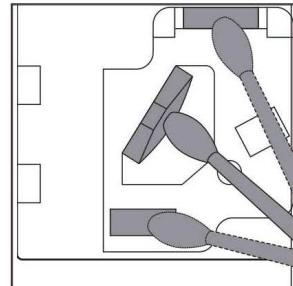

Fig. 10
- clean the sensor with a damp ear stick and wipe with a dry stick (fig.10)